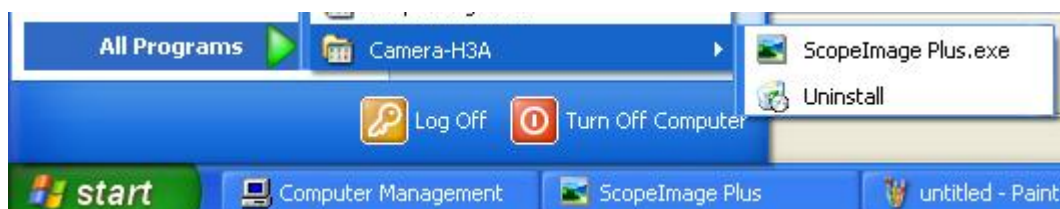

Fig 2.4.1
(2). Check the Start->ScopeImage Plus as Fig 2.4.1